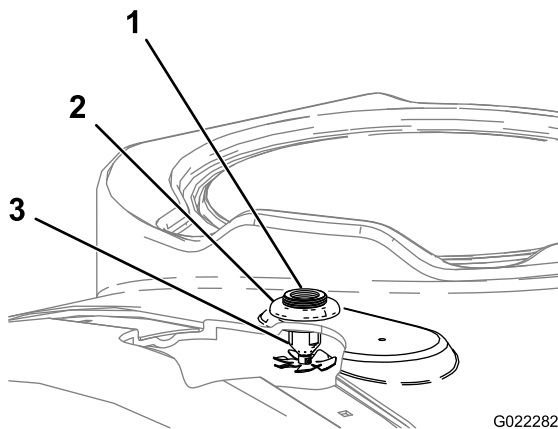

Figure 6
- 2. Install a nozzle assembly up through each of the drilled holes (Figure 6).
- 3. Install the plastic flange nut over the exposed threads of the bulkhead on top of the tank (Figure 6).